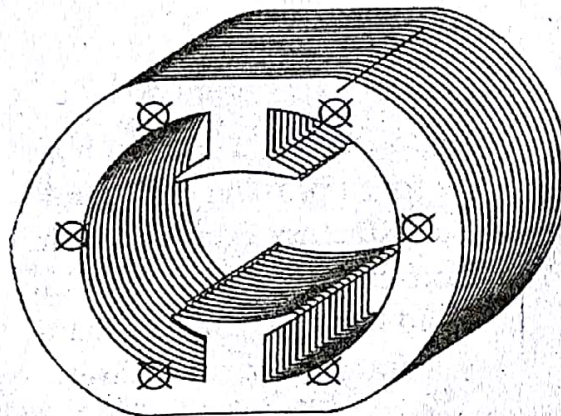

Figure 3.8
- 1) **Non-Compensated Universal Motor:** The non-compensated motor has two salient poles and it is laminated as shown in figure 3.8.